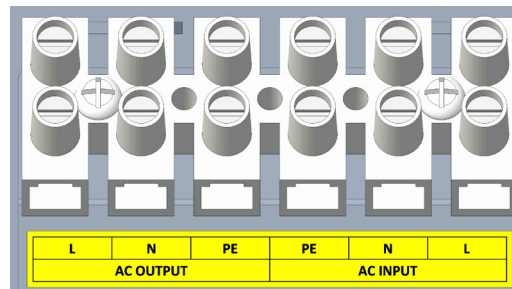

Figure 5: Terminal Block
3. Attach the optional hardwire I/O box (10076157 for 1-2KVA model or 10076156 for 3KVA model) using the screws from step 1. Install the field wiring through the provided conduit/cable gland holes and wiring to the proper input and output terminal block and torque the connections (Figure 5).